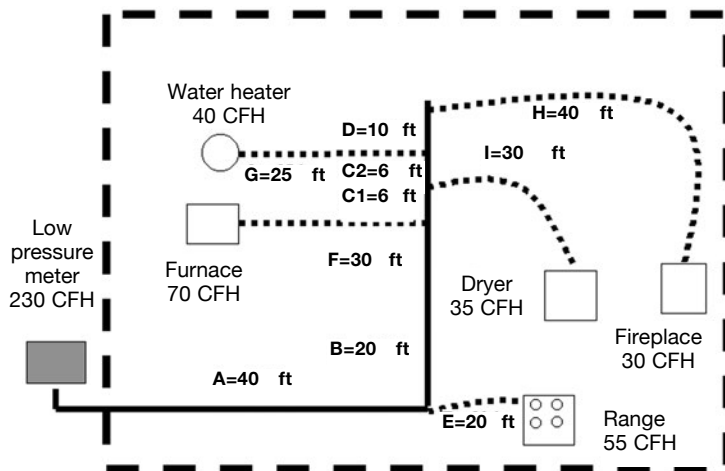
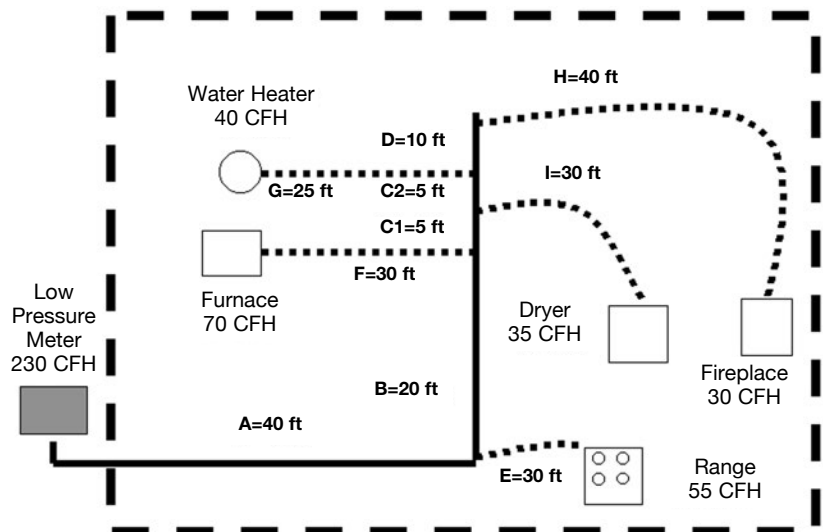

Figure: 3-6
Figure: 3-8
1. The system presented in Figure: 3-6 is a typical residence with 5 appliances. The supply pressure is 7 inches w.c. The allowable drop is 1-inch w.c. total.
1. The system presented in Figure: 3-8 is identical to that in Figure: 3-6, a single-family installation with 5 appliances. Low pressure 6-7 inches and a pressure drop of 0.5 inch water column.